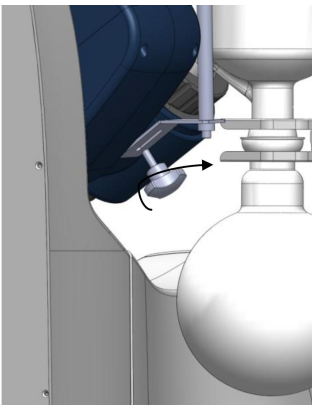

Figure 9
- Installing the vertical glassware condenser locking device (Figure 9). Use the transportation screw on the back of the appliance (a)